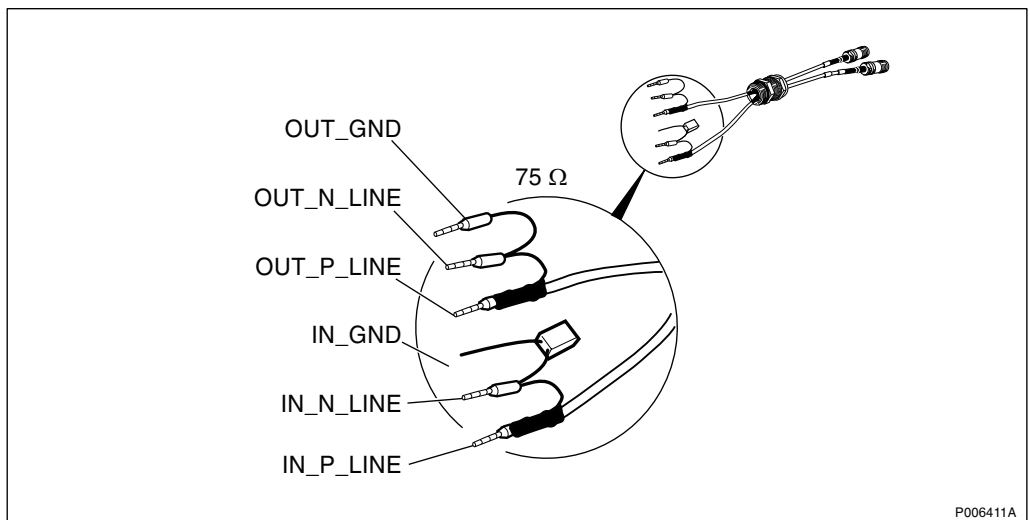

Figure 67 The 75 Ω PCM cable with DC isolation of IN wire, and coaxial TNC connectors
- The pre-assembled 75 Ω coaxial cable with DC isolation that can be ordered as an option for 75 Ω transmission as shown in Figure 67 on page 90